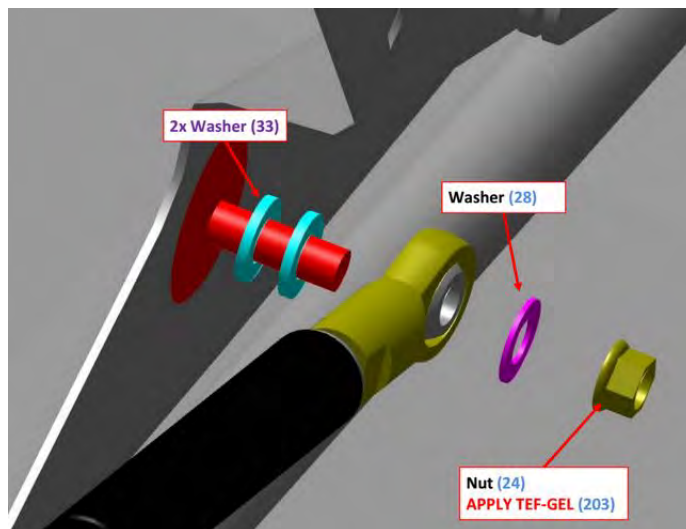

FIGURE 10-49
2. Ensure that there are two NAS1149C0463R washers on the threaded stud that attaches the cylinder end of the strut to the structure, prior to strut installation. See Figure 10-49.